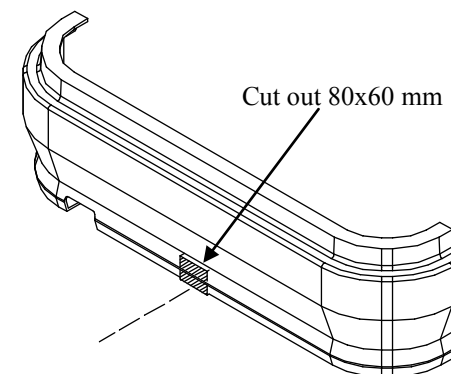

Fig. 2
2. Slide the main bar of the towbar (pos. 1) to the tunnels and fix it through original car holes and towbar holes (pos. A) using bolts M10x35mm (pos. 4) from the towbar accessories. Use washers (pos. 5).
3. Cut the bumper according to fig. 2.
5. Fix body of the automat and place tow-ball according to supplied instruction. Note! Remember to place socket plate (pos. 3) as shown on the drawing 1.